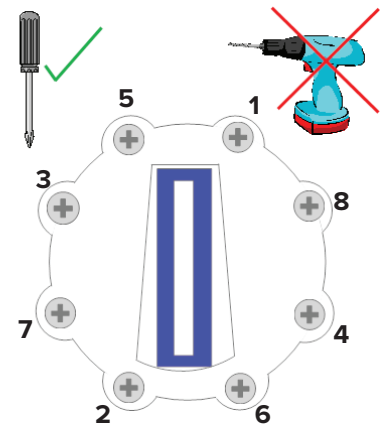

Fig 2.6
8. Using a hand Phillips-head screwdriver, slowly tighten the screws in a diagonal pattern, per the diagonal sequence shown in Fig.2.6. Do not fully tighten one screw before proceeding to the next, i.e., pull them down slowly multiple times to avoid stressing and cracking the lid. Screws should be tightened to a final torque of 25 in./lbs. or 2.8 Nm. **Disclaimer: Under no circumstances should the screws in the FlowVis lid assembly or sensor be tightened with an electric screwdriver in the 'drill' setting. This can result in a cracked lid or sensor and will void the product warranty.**